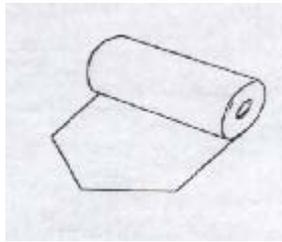

Fig 6-10 Cut the paper
4. Cut the paper into the shape as Figure 6-10 illustrated.